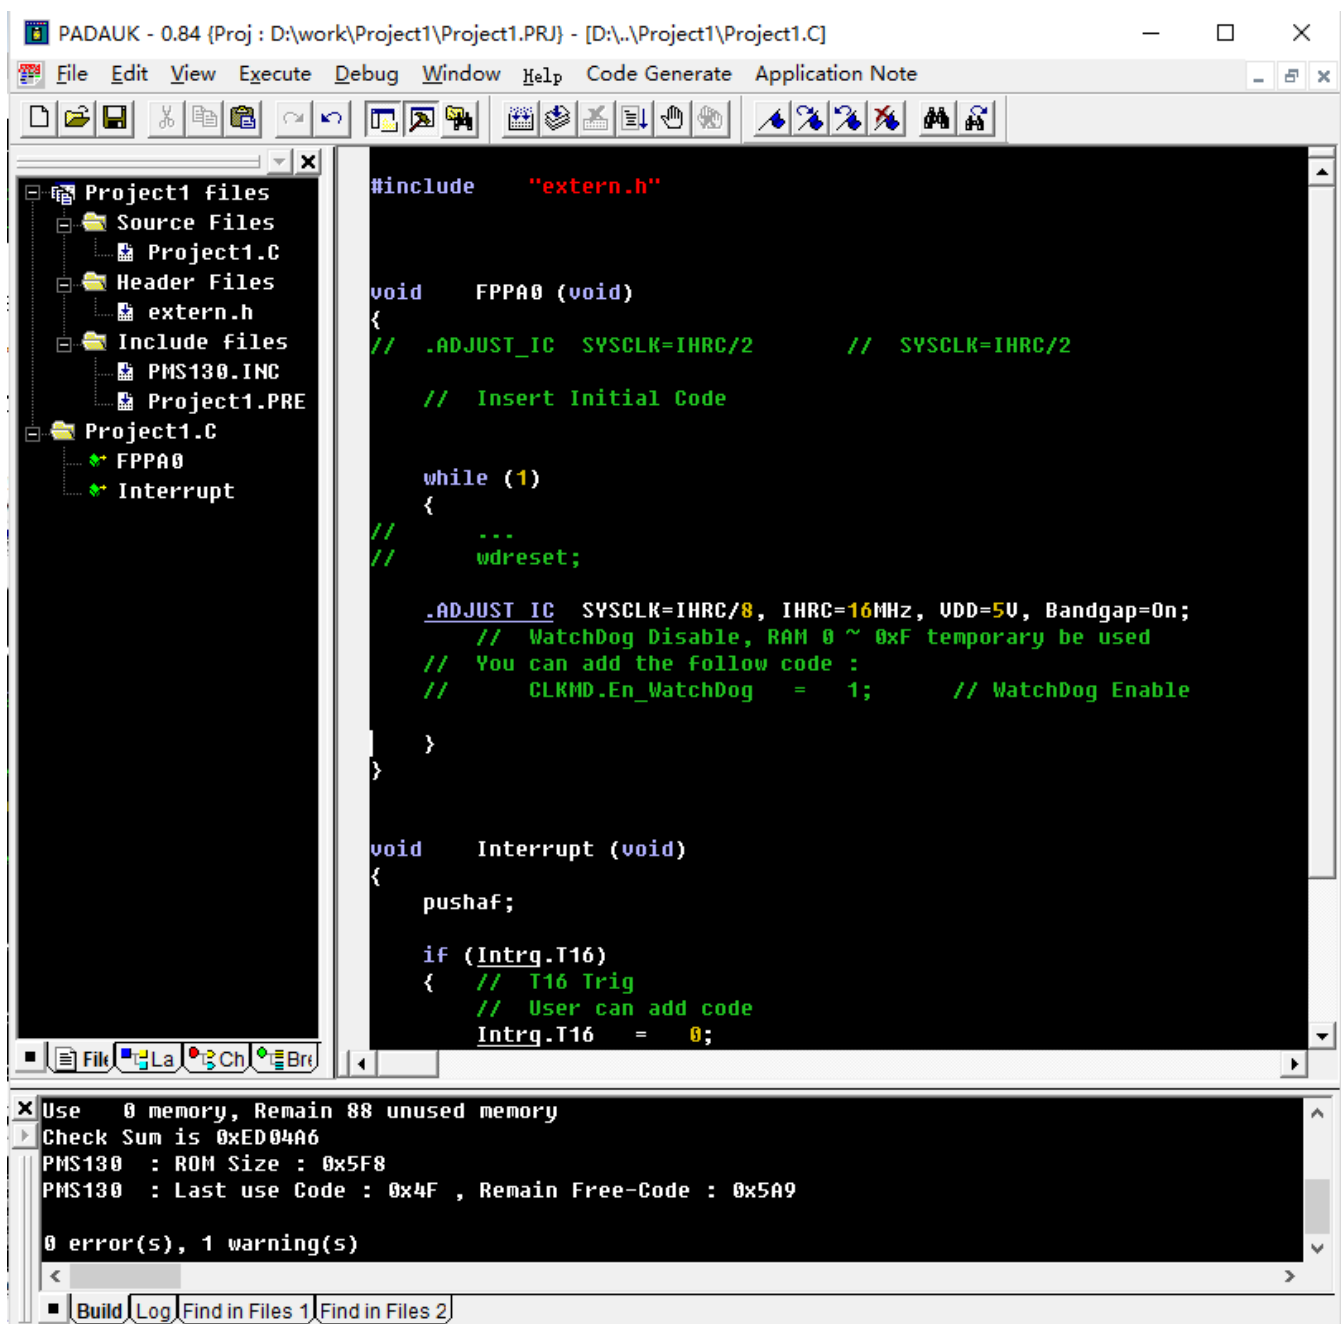

Fig.3-24 Mini-C type program debug window screen
After setting the program parameters, you can write your program functions. Click **Build (B)** or **Rebuild** to enter the debugging environment and start running the program. The window screen is shown in figure 3-24: